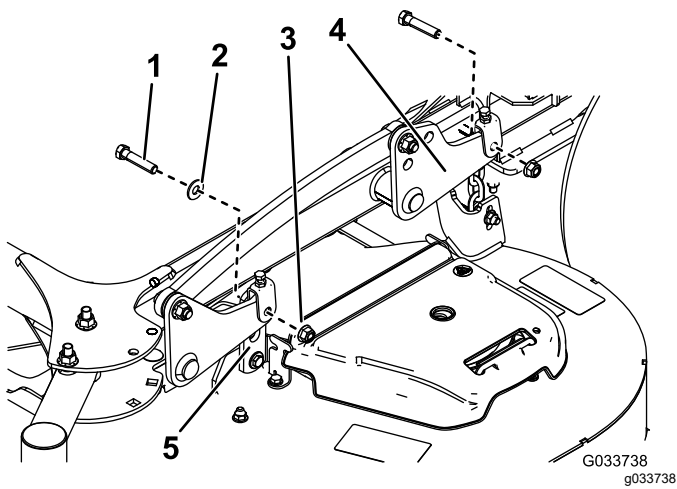

Figure 94
5. Remove the 2 bolts, 2 nuts, and washer connecting the mower-deck hangers to the lift plates for both sides of the mower deck (Figure 93 and Figure 94).
Note: Mount the front hanger brackets on the outside of the front lift arms for 52-inch decks (Figure 93). Mount the front hanger brackets on the inside of the front lift arms for 60-inch decks (Figure 94).